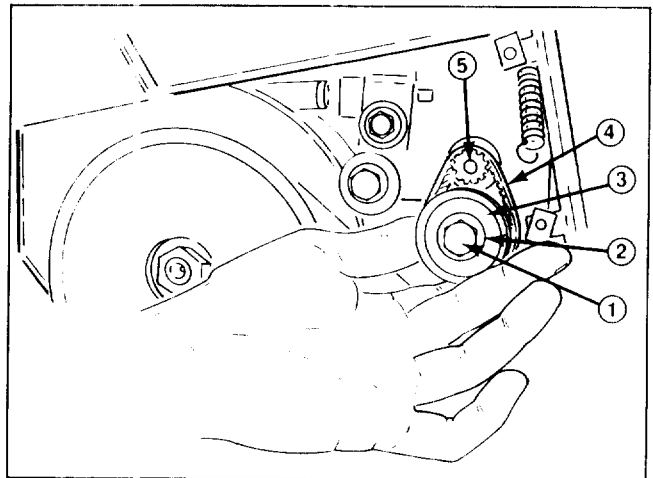

Figure 18
3. Remove bolt, (2) washers, and small pulley (Fig. 18). Remove and discard small belt.
4. Slide (2) washers onto bolt. Insert bolt through small pulley. Bolt must ride on bearings in small pulley.
6. Slide belt over motor shaft pulley (Fig. 18).